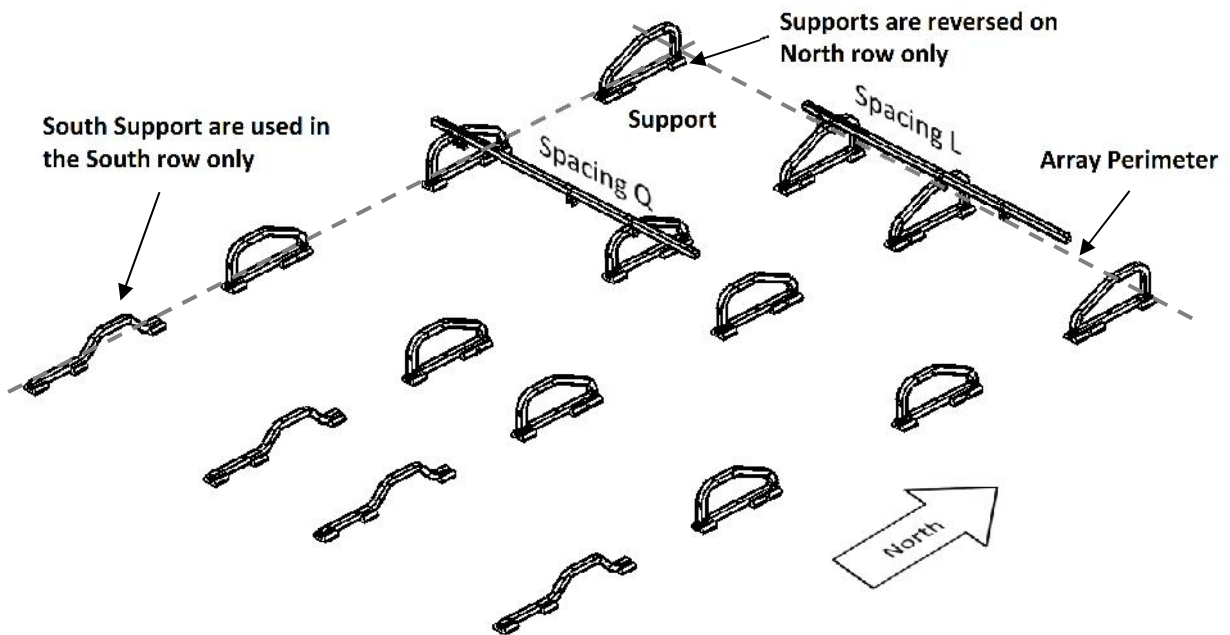

Figure 3 Starting the Array
- 3.4. In the example below the western most Support roof pads must be lined up with north-south snap line. North edge Support roof pads must align with east-west snap line. Leave the Spacer Stick in place (Figure 3).
3.11.Place a second row of Supports south of the row previously built. Supports should be spaced by roughly the width of the module in the north-south direction. Mid supports are turned 180 degrees from the North Supports, Figure 3.